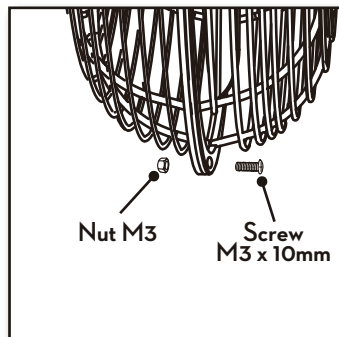

Figure 16
7. Mount the front grill to the rear grill, tighten the grills using the grill locking screw and nut at the bottom of the grill. Figure 16.
2. Disassemble the grills by carefully removing the screw and nut at the bottom of the grill. See Figure 16.